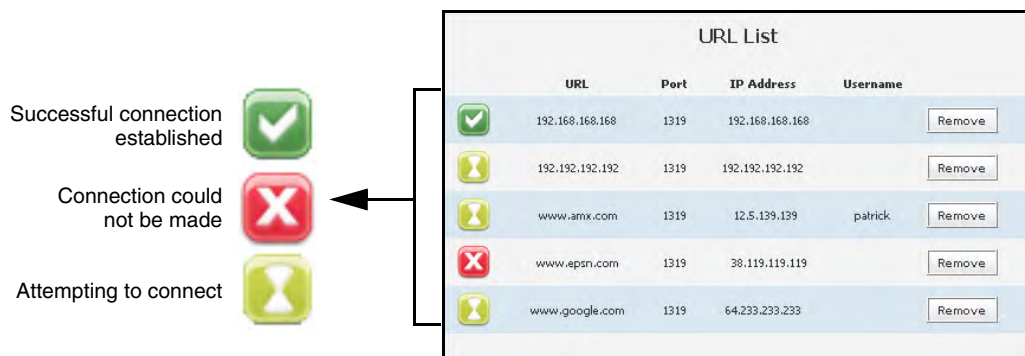

FIG. 61 URL List dialog (with entries)
10. Confirm your newly added URLs appear within the URL List dialog (FIG. 61).
- Remove an individual URL entry by pressing the **Remove** button on that URL's row listing within the URL List dialog (FIG. 61).